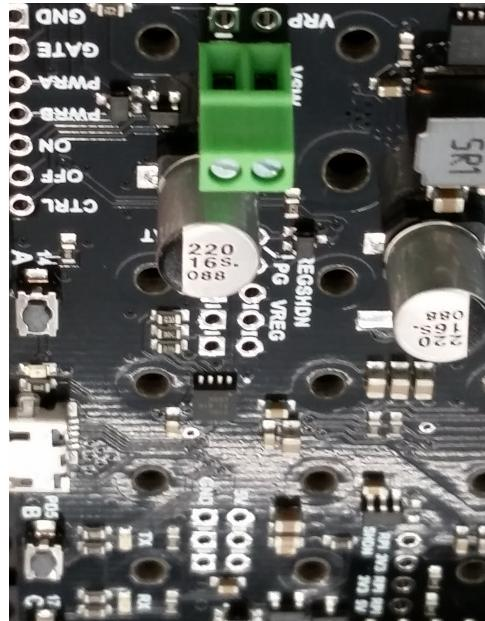

Figure 1: Orientation of the screw terminals.
- (1) 1x2 screw terminals to VSW/GND for power for your third motor. **Make sure the wire openings face away from the big capacitor** as shown in Figure 1, otherwise you won't be able to get the wires in! You could also use the 1x2 socket, but you risk having the power wires come out of the sockets.